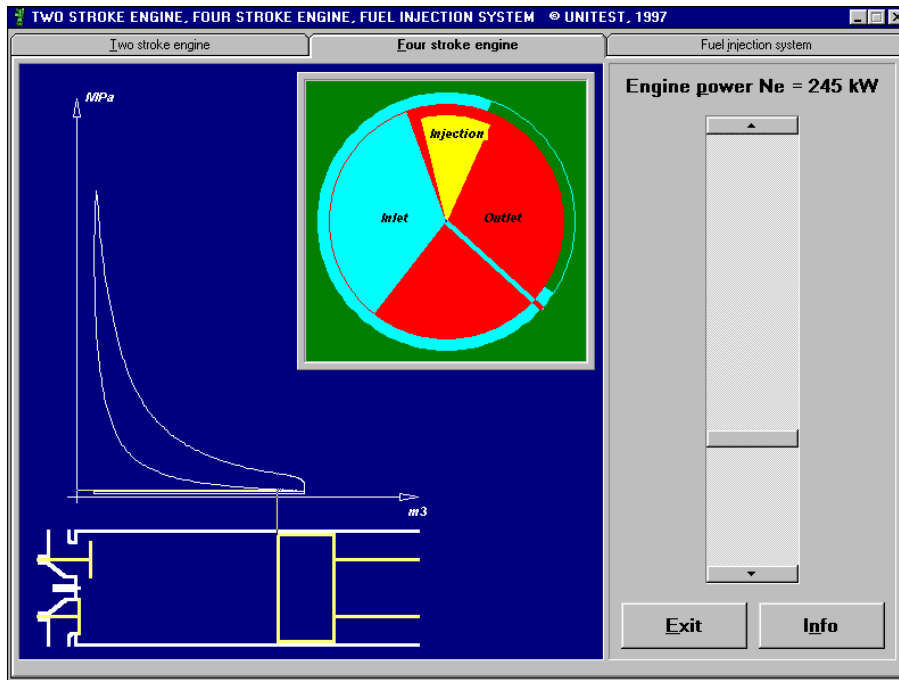

Fig. 2 Four – stroke engine diagram
2. Four - stroke engine / fig. 2/